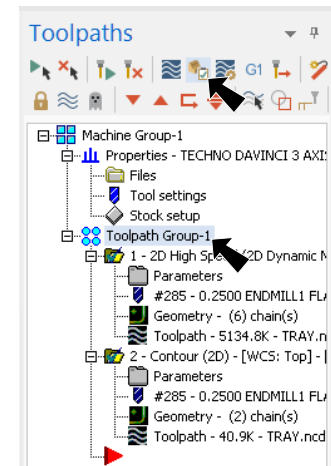
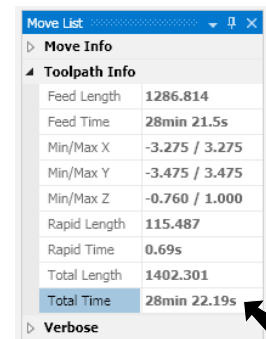

Fig. 80
Fig. 81
Step 1. Click **Toolpath Group-1** in the Toolpaths Manager to select **Dynamic Mill** and **Contour** toolpaths, **Fig. 80**.
Step 2. Click **Verify**  in the Toolpaths Manager, **Fig. 80**.
Step 3. Click **Play**  (R) in VCR bar.
Step 4. Note **Total Time** to run program under Toolpath Info in the Move List panel (**roughly 28 minutes 22 seconds**), **Fig. 81**.